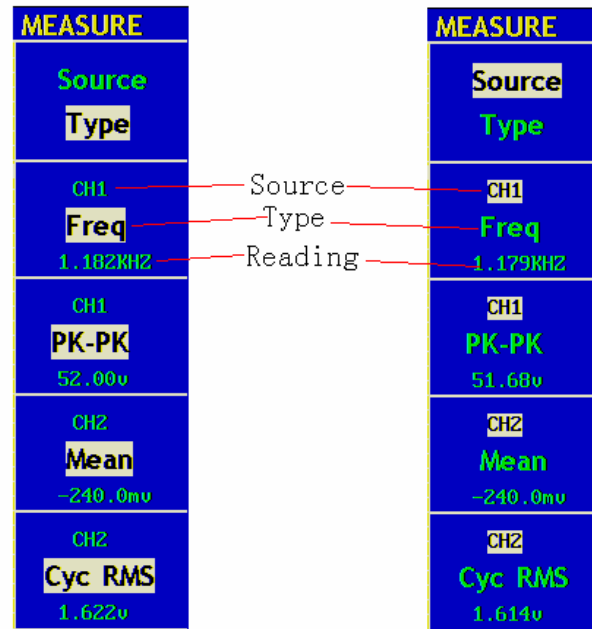

Fig.5-43 Measure Menu
Press the **F1** menu selection button to choose **Source** or **Type** menu. You can choose the channel to be measured from the **Source** menu and choose the measurement **Type** (Freq, Period, Mean, PK-PK, and Cyc RMS). The menu is displayed as **Fig.5-43**.
- Adjust the positions of **CURS** and **MEAS** according to the measured waveform, with the period and frequency of Cursor1 and Cursor 2 displayed in the increment window. The current position of Cursor1 is displayed in the Cursor1 window and that of Cursor2 is displayed in the Cursor2 window (see **Fig.5-43**).